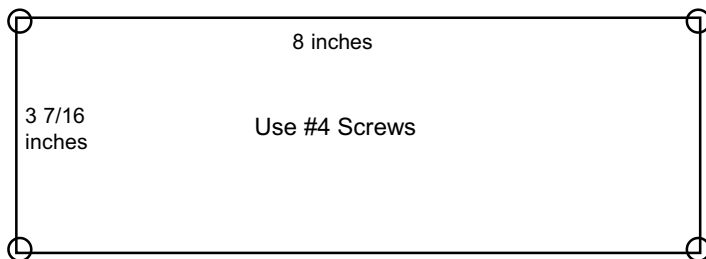

Figure 1: Location of mounting screws for wall mounting
**Mounting:** The coupler may be placed on a desk or other horizontal surface, or it may be wall mounted. If wall mounting is desired, refer to Figure 1 and mark the locations of the four mounting screws on the desired surface. Start four #4 round head screws so that the heads remain approximately 1/4 inch above the surface. Remove the TCB-2 cover and align the four keyhole slots with the mounting screws. Tighten carefully.